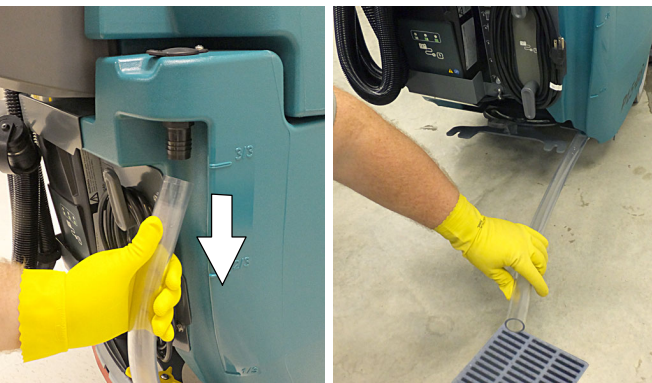

FIG. 49
2. To drain remaining water from solution tank, pull the solution tank level hose from the accessory rail (Figure 49). Firmly reconnect the hose to the accessory rail after draining tank.